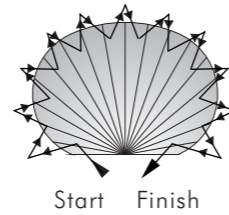

FIG. 10
The purpose of walk test is to select a proper installation place and gain the desired detection coverage under auto mode. Please turn Time knob to "—", Lux knob to "∞" and Meter knob to "+", then refer to the following steps conducting a walk test (See FIG. 10).
- 4.2.4 Walk from outside across to the detection pattern until load turn on (See FIG. 10).